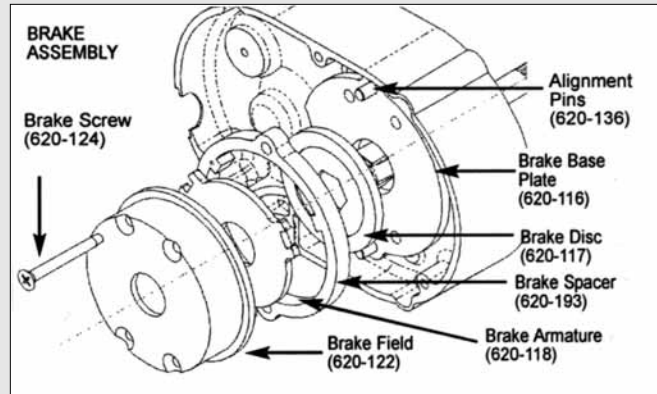

Figure 8B
- Refer to Figure 8B and disassemble the brake. Depress and hold the field assembly (620-122) while removing the four brake screws (620-124). The field assembly is under spring pressure and will spring-out if not held. During disassembly, note there is a small leaf spring (620-121) on the brake driver (620-119) and this will spring-out when